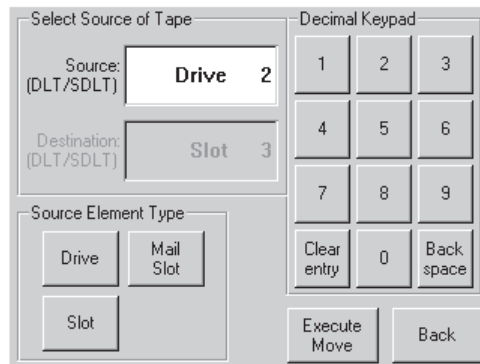

Figure 35. Move Media screen (source)
1. Touch the **Source** box or **Source Element Type** from the Move Media screen. The **Source** box will change from gray to an active state as shown in Figure 35.